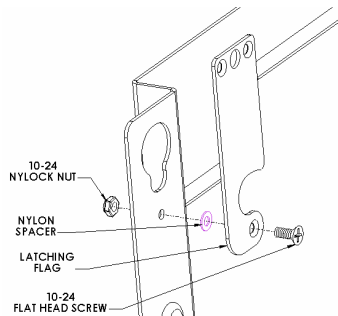

Figure 2
1. Attach latching flag to mount using the 10-24 Phillips flat head screw, Nylon washer, and Nylock nut (see Figure 2). Tighten until friction will hold the flag in place.